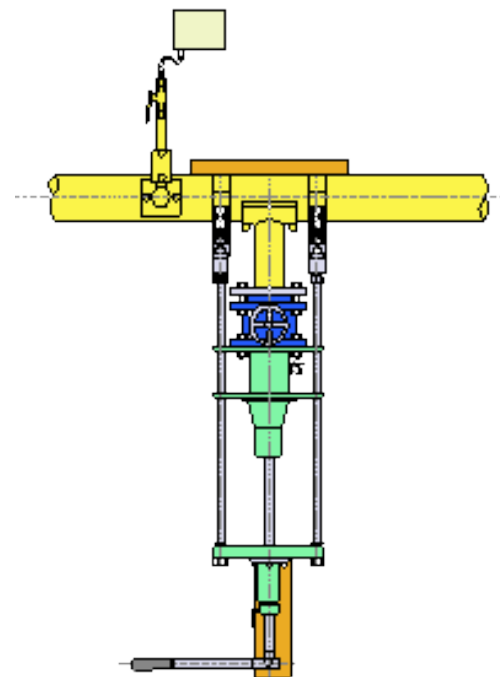

Figure 33- Drilling Operation - Branch Saddle
1. Check that the valve is in the fully open position see Figure 33.